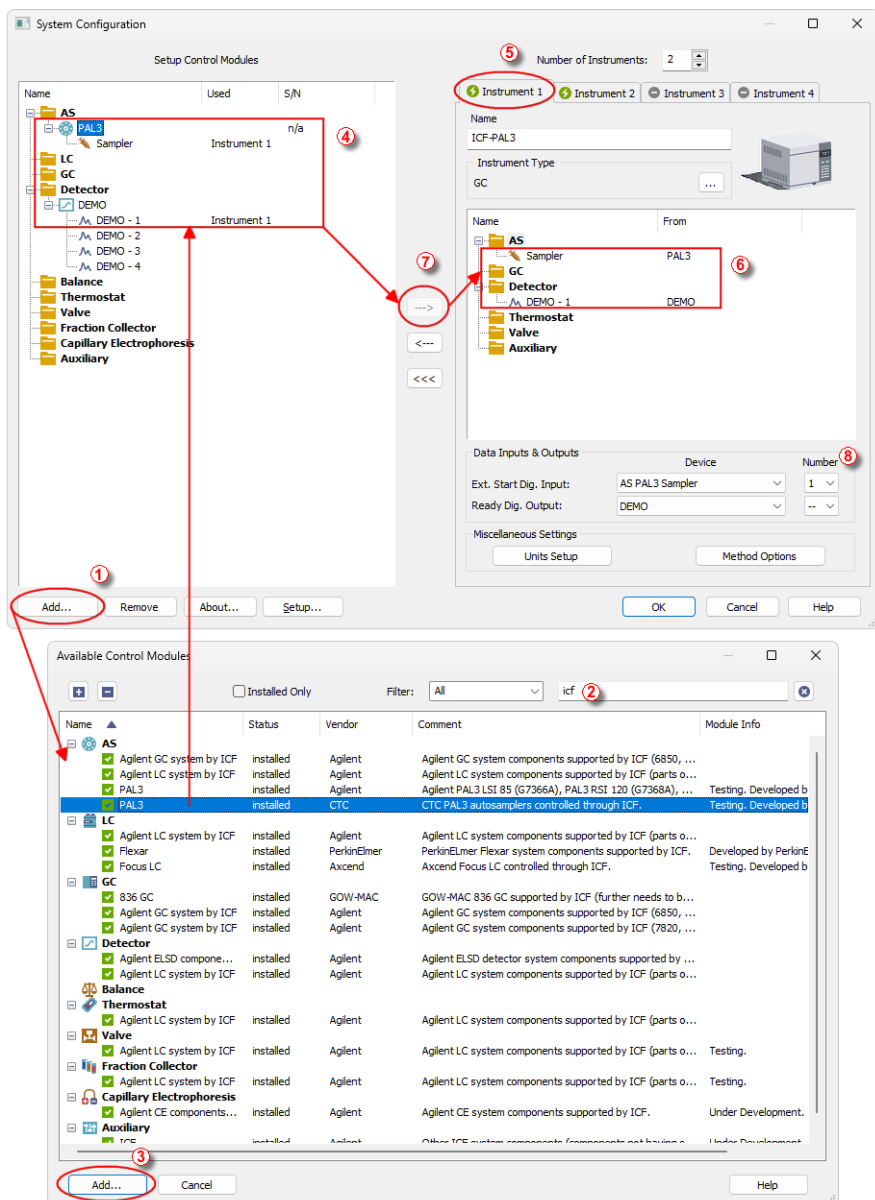

Fig. 4: System Configuration
Caution: When the *PAL3 Setup* dialog is open for extended time, communication between **Clarity** and the AS may be lost, in such case an error message will be displayed. After accepting the error message it is necessary to set the configuration from very beginning, starting with clicking the *Add* button ① (See **Fig. 4** on pg. 5.) in the *System Configuration* dialog.